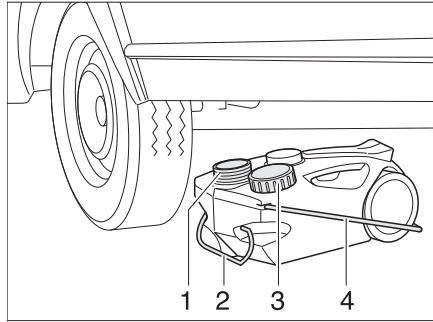

Fig. 146 Waste water tank, mobile
- Close the opening of the waste water tank (Fig. 146,1) with the lid (Fig. 146,3).
- Pull out the waste water tank at the handle (Fig. 146,2).
- Swing up the carrying handle (Fig. 146,4) and set the waste water tank up.